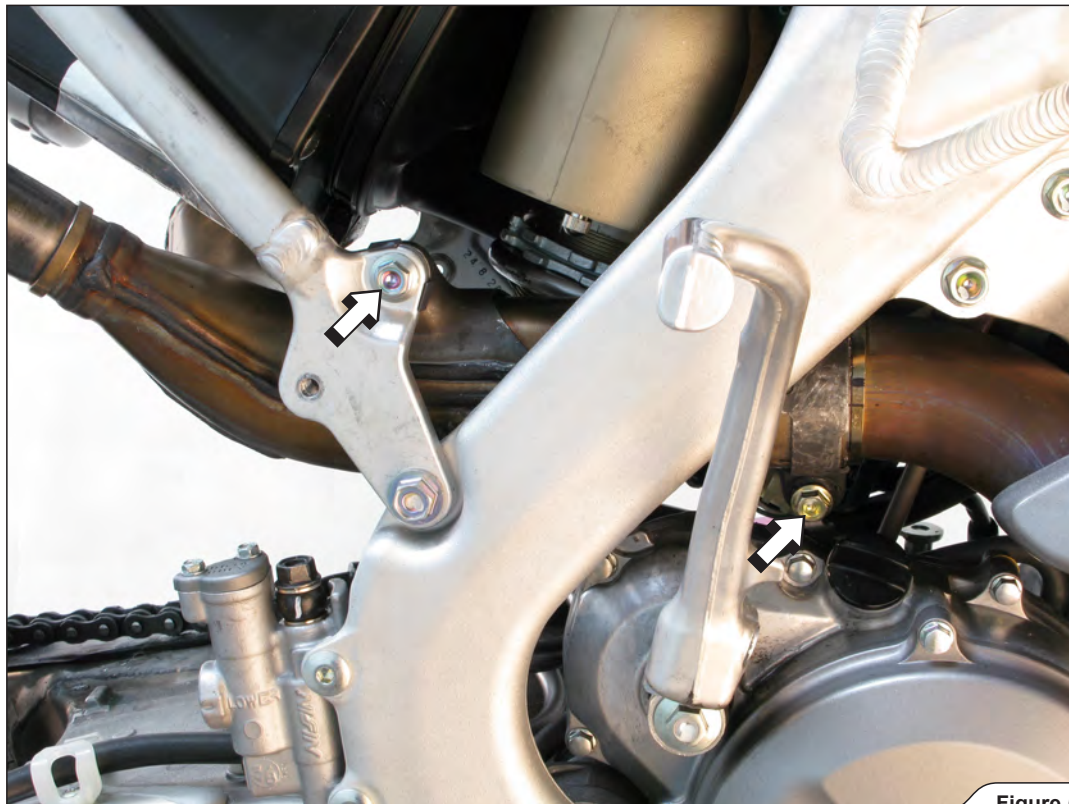

Figure 5
6. Loosen the marked clamp and unscrew the link pipe's bracket bolt (Figure 5).